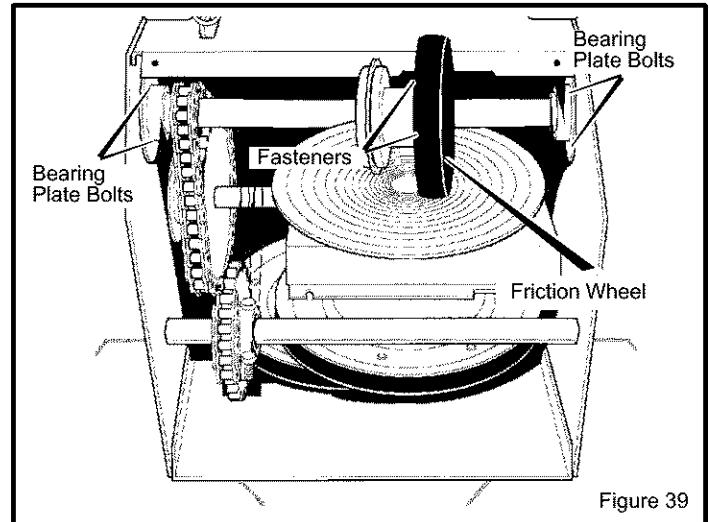

Figure 39
5. Remove fasteners securing friction wheel to hub, and set fasteners aside (see Figure 39).